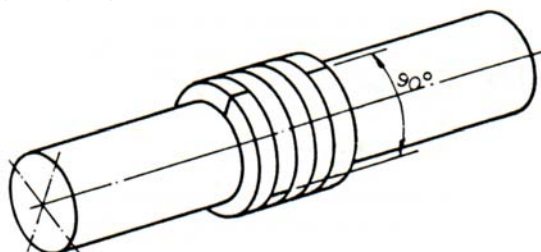

Fig. 21 - Rings position with ends 90° from each other.
- Proceed to the assembly in the inverse sequence of the disassembly, introducing each part into the stuffing box chamber with the help of the gland cover. The packing rings should be mounted with their ends 90° from each other. (see fig.21).